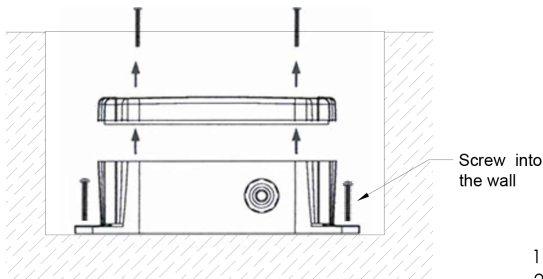

Fig. 1-Water proof Junction Box Side View
1. Mount waterproof junction box into the wall (fig 1)
2. Unscrew and remove mounting screws and remove lid from waterproof junction box. Save screws for later use. (fig 1)